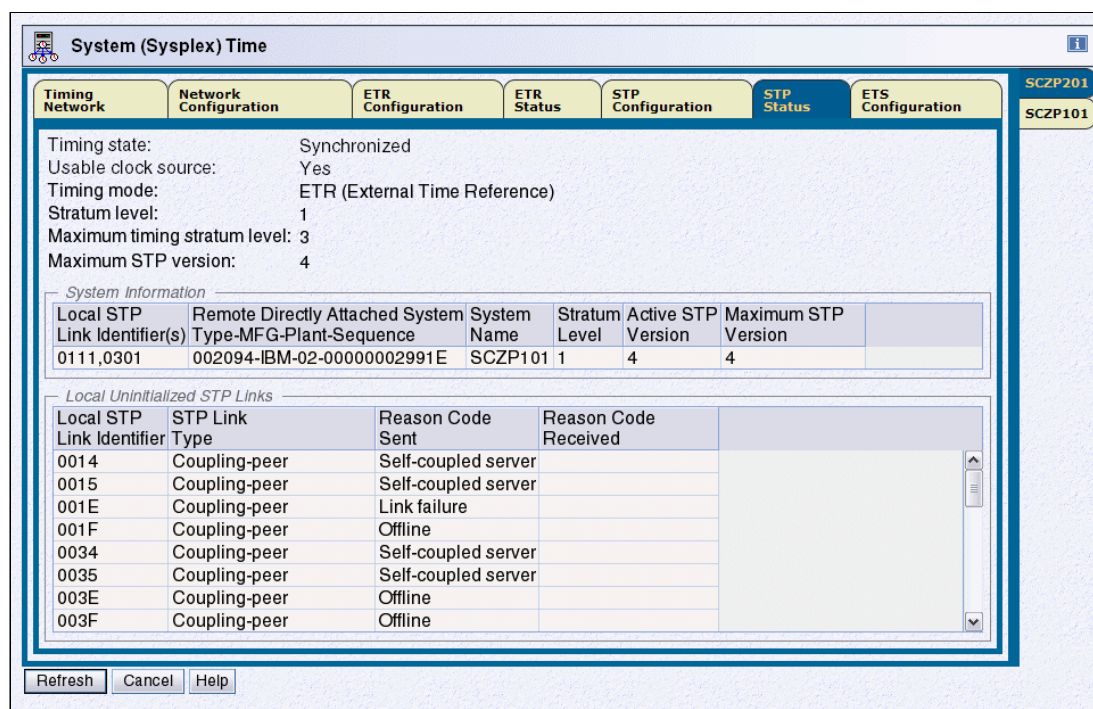

Figure 10-9 STP Status tab (SCZP201)
Figure 10-9 shows the STP Status tab for server SCZP201.
1. Ensure that this CEC has established STP connectivity over the CF links to an attached Stratum 1, as shown in the System Information table in the STP Status tab shown in Figure 10-9 on page 300.